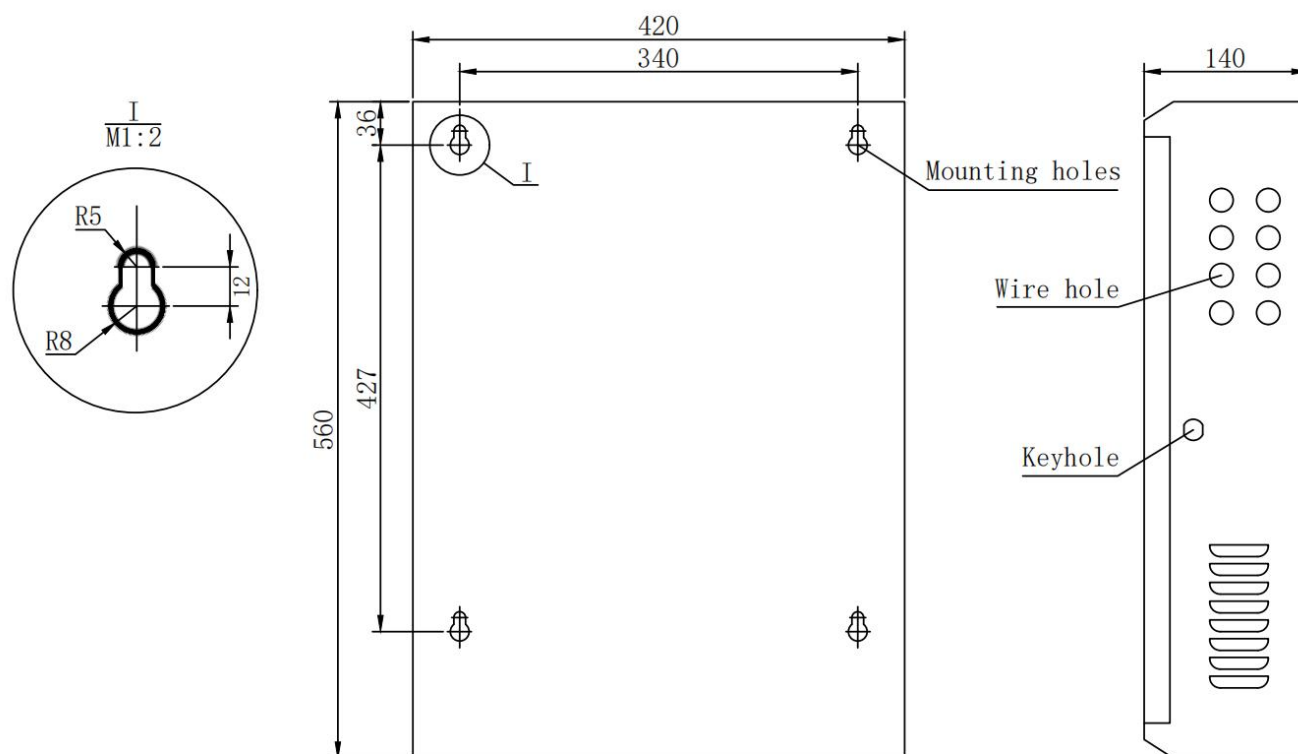

Fig.4-1
4.2.1 The installation method is as shown in Figure 4-1.
Control panel dimensions (length × width × height): 420mm × 140mm × 560mm. The control panel is mounted on the wall through 4 mounting holes, the dimensions of the mounting holes are shown in Figure 4-1. The right side of the control panel has 8 wiring holes, which are easy for wiring between the control panel and field devices. There are also 5 knock holes at the top, if the holes on the right side are not enough.